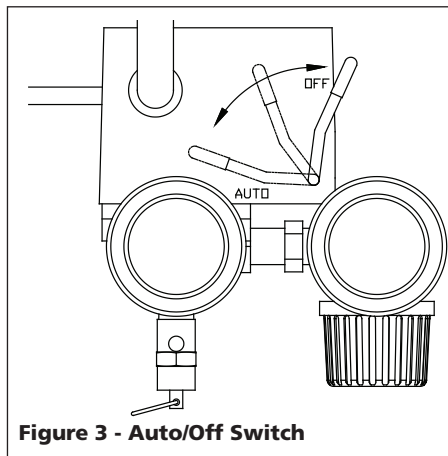

Figure 3 - Auto/Off Switch
- **Pressure Switch - Auto/Off Switch** (Figure 3) - In the auto position, the compressor shuts off automatically when tank pressure reaches the maximum preset pressure. In the OFF position, the compressor will not operate. This switch should be in the OFF position when connecting or disconnecting the power cord from the electrical outlet or when changing air tools.